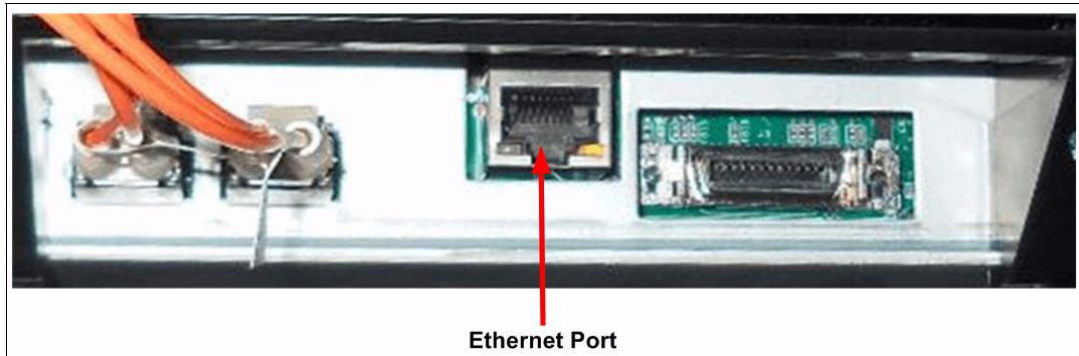

Figure 3-20 TS1150 Ethernet port
The Ethernet port is used in the TS1155 and TS1150 Rack mount configuration, when in a TS3500 tape library configuration the TS3500 tape library management interface (MI) can be used to manage the TS1155 and TS1150 instead. Figure 3-20 on page 181 shows the location of the Ethernet port.
The 3592-E08, 55E and 55F canisters no longer have an RS-232 serial port. An Ethernet service port was added to the drive, which is for service, and use by the user. It provides the capability for users to access advanced drive status pages, and for service personnel to access a drive virtual operator panel and perform firmware uploads and download drive memory dumps. It is a single, standard RJ45 connector at the rear of the canister, as shown in Figure 3-20.